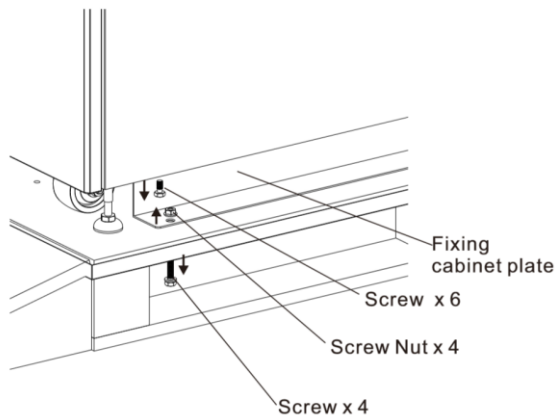

Figure 2-4
4. Remove 2 fixing cabinet plates and loosen leveling feet by rotating them counterclockwise. Then, move the cabinet from the pallet. Refer to Figure 2-4.